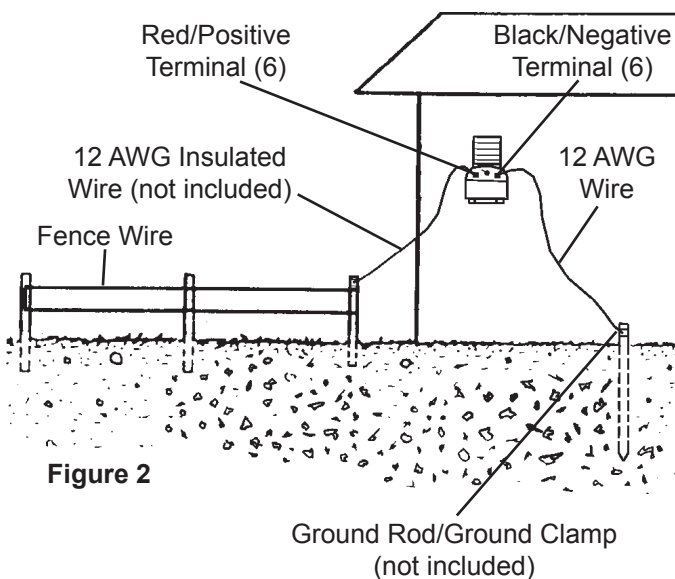

Figure 2
2. **CAUTION!** Do not use an existing Ground Rod that is hooked up to other electrical systems or to a water pipe. See Figure 2, below.
4. Connect one end of an appropriate length of 12 AWG Insulated Wire to the Ground Rod, using a Ground Clamp (not included). See Figure 2.
5. Connect the other end of the 12 Gauge Insulated Wire to the **Black/Negative** Terminal (6) of the Solar Fence Controller. See Figure 2.
2. Splice one end of an appropriate length of 12-1/2 Gauge Insulated Wire onto the Fence Line. See Figure 2.